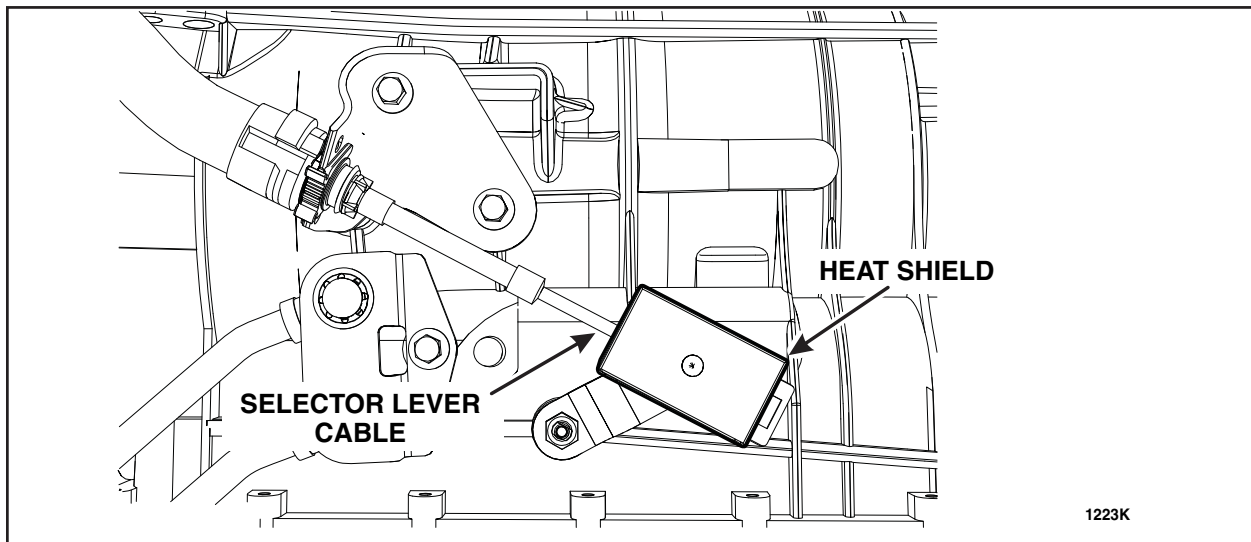

FIGURE 2
7. If equipped, remove the heat shield from the selector lever cable. See Figure 2.